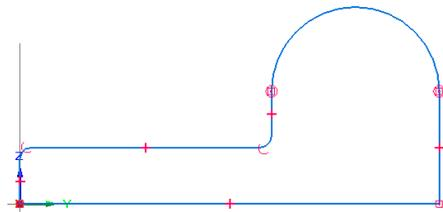

Figure 2-56 Fillets created in the model
4. Similarly, move the cursor over the corner where the upper horizontal line intersects the vertical line originating from the left endpoint of the arc. Now, click to select this corner; a fillet is created at this corner. Figure 2-56 shows the fillets created in the model.